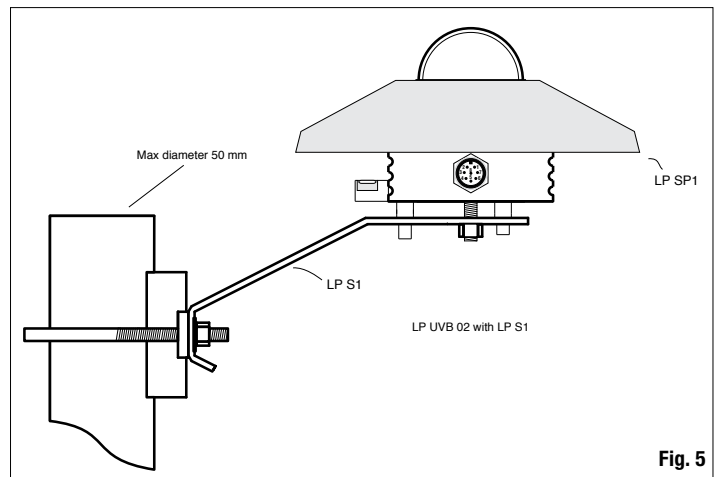

Fig. 5
- The LPS1 mounting kit (Fig. 5), supplied on demand as an accessory, allows an easy mounting of the radiometer on a mast. The mast maximum diameter shall not exceed 50 mm. The operator shall take care that the mast height does not exceed the radiometer plane to avoid measurement errors caused by any reflection or shadow of the mast itself. To fix the radiometer to the mounting bracket, remove the shade disk loosening the three screws, fix the radiometer and mount the white shade disk again.